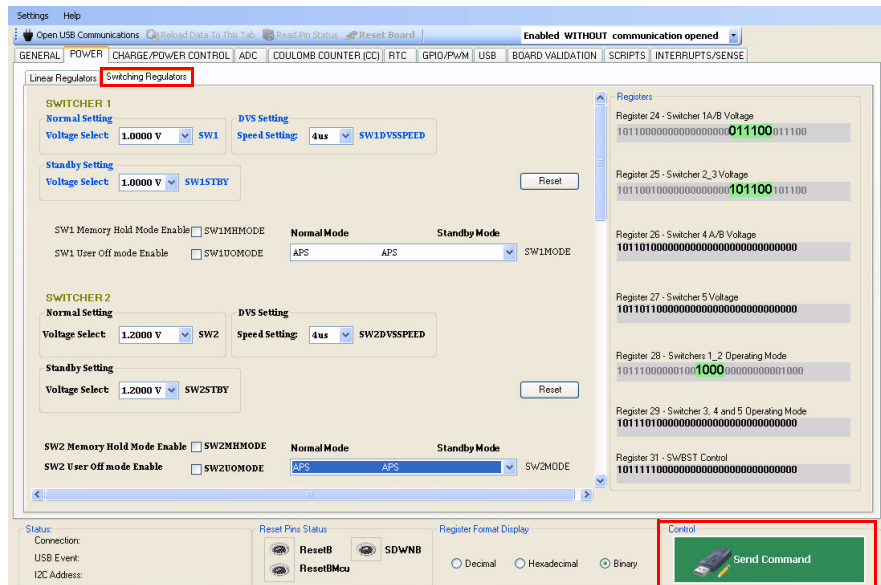

Figure 19. Send Command
4. Once registers are configured, click the **Send Command** button for the information to be sent, and the registers to be written (see Figure 19).